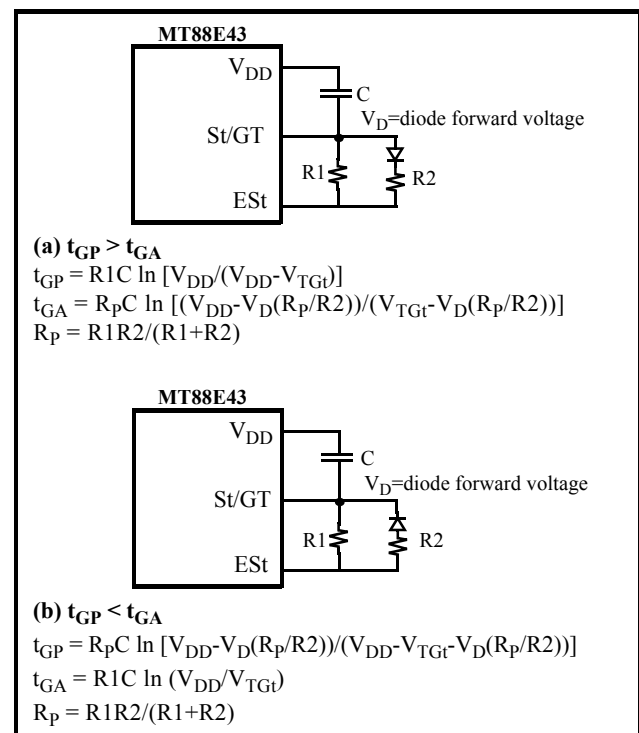
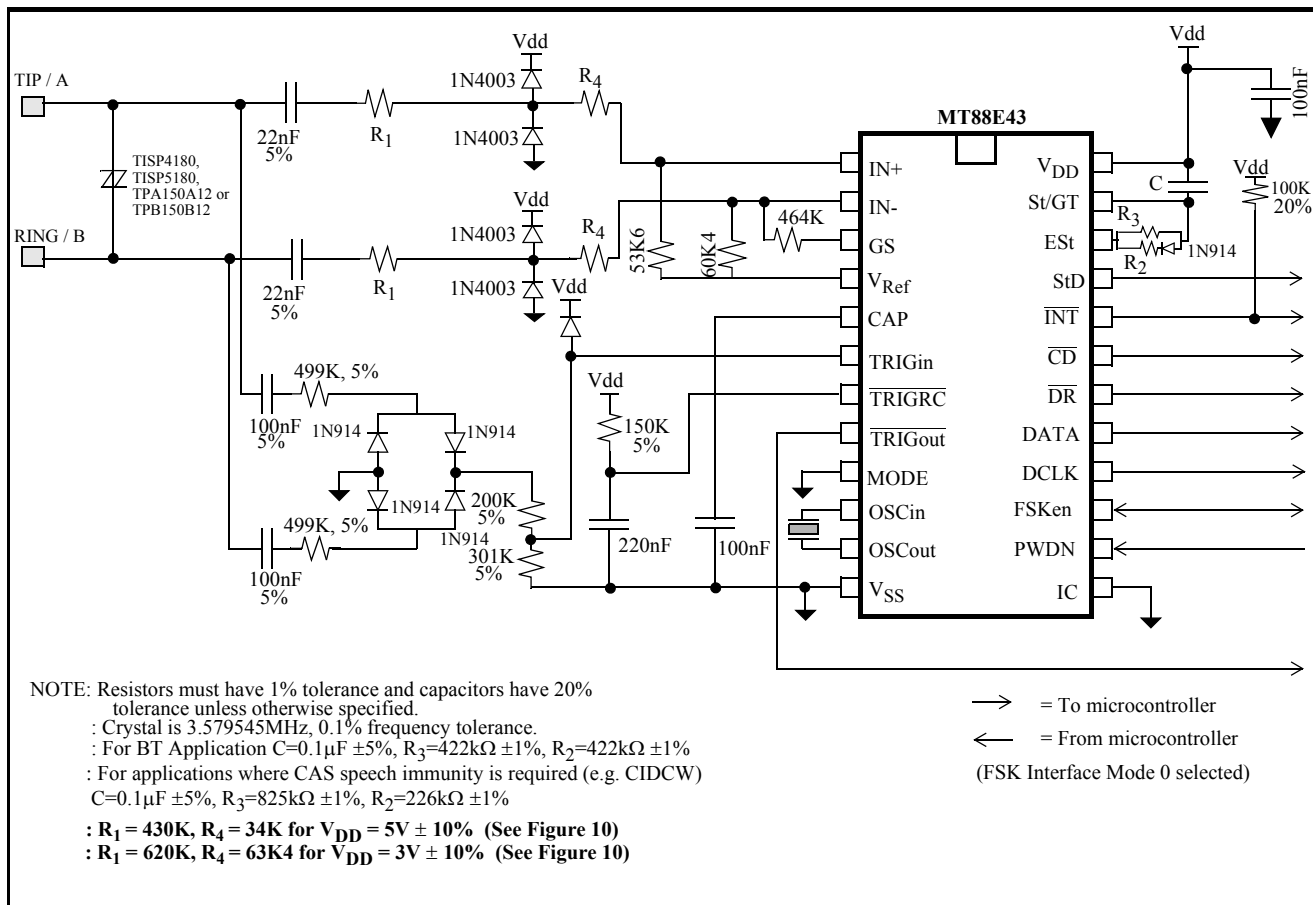
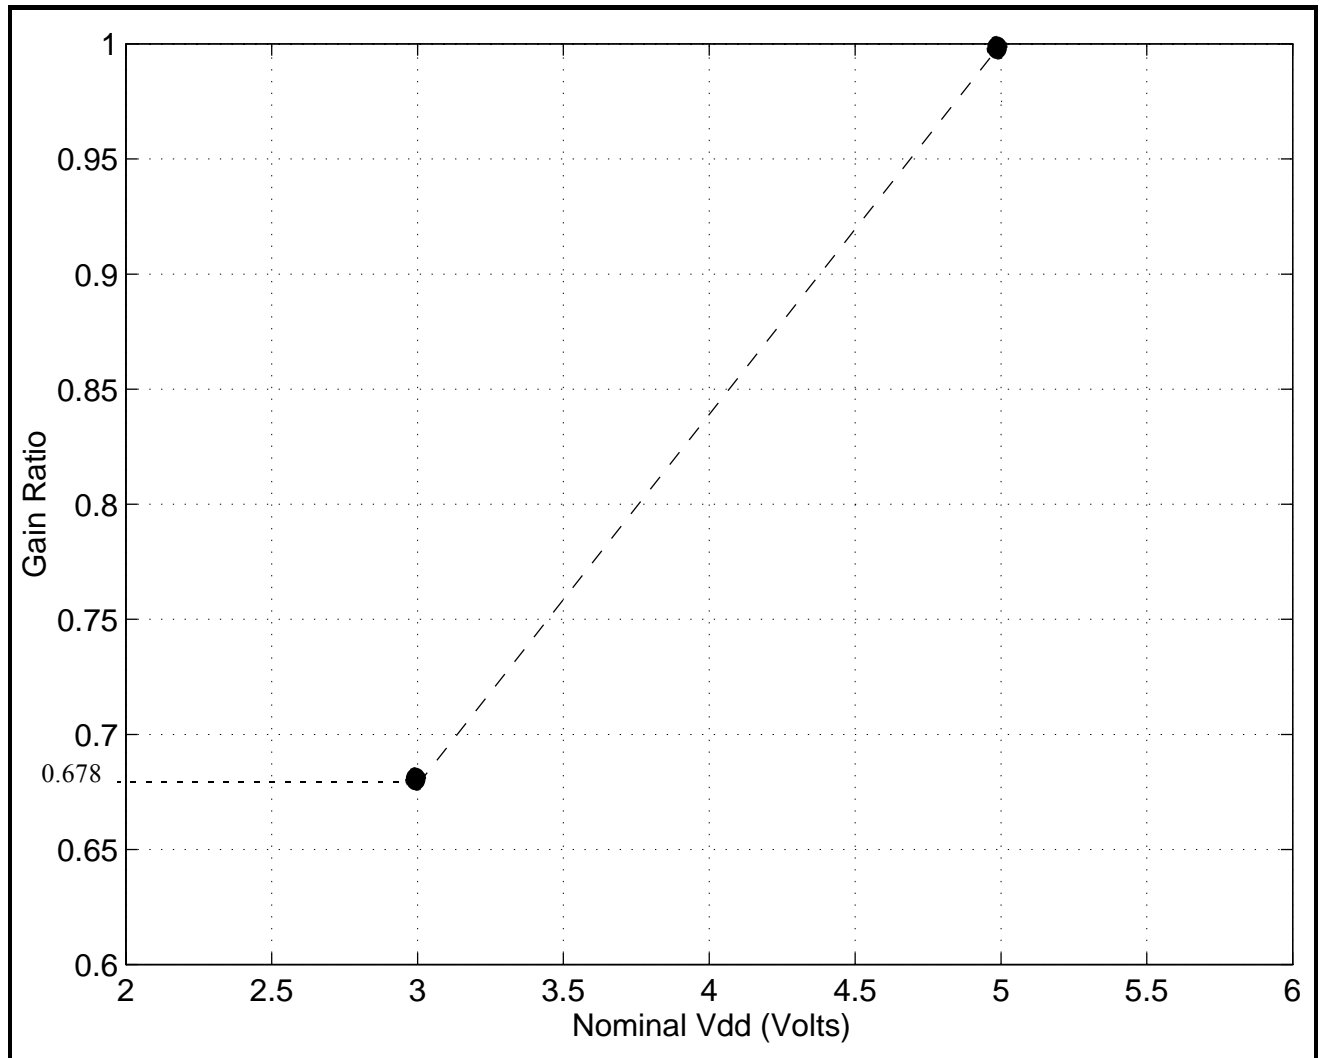

Figure 5 - Guard Time Circuits with Unequal Times
Figure 9 - Application Circuit
Figure 10: Gain Ratio as a function of Nominal Vdd
BT specifies that the idle state tone alert signal recognition time should not be less than 20ms when both tones are used for detection. That is, both tones must be detected together for at least 20ms before the signal can be declared valid. This requirement can be met by setting the t_{GP} (refer to Figure 5) to at least 20ms.
BT also specifies that the TE is required to apply a D.C. wetting pulse and an AC load 15-25ms after the end of the alerting signal. If $t_{ABS}=t_{DA}+t_{GA}$ is 15 to 25ms, the D.C. current wetting pulse and the A.C. load can both be applied at the falling edge of StD. The maximum t_{DA} is 8ms so t_{GA} should be 15-17ms. Therefore, t_{GP} must be greater than t_{GA} . Figure 5(a) shows a possible implementation. The values in Figures 9 and 11 ($R2=R3=422K$, $C=0.1\mu F$) will meet the BT timing requirements.
$(A_{Vdiff}) = R5/R1$ (see Figure 9,10,11)
The circuits shown in Figures 9 and 11 are application circuits for the MT88E43. As supply voltage (V_{DD}) is decreased, the threshold of the device's tone and FSK detectors will be reduced. Therefore, to meet the BT or Bellcore tone reject level requirements the gain of the internal opamp should be reduced according to the graph in Figure 10. For example when V_{DD}=5V (+/- 10%), R₁ should equal 430k Ω and R₄ should equal 34k Ω ; and if V_{DD}=3V (+/- 10%) R₁ should equal 620k Ω and R₄ should equal 63.4k Ω . Resistors R₁ and R₄ are shown in Figures 9 and 11.
The circuit shown in Figure 9 illustrates the use of the MT88E43 in a proprietary system that doesn't need to meet FCC, DOC, and UL approvals. It should be noted that if glitches on the tip/ring interface are of sufficient amplitude, the circuit will falsely detect these signals as ringing or line reversal.
Note: In the application circuits shown in Figures 9 and 11, the Gain Ratio of MT88E43 opamp is
- With gain setting as shown in Figure 10. Production tested at 3V \pm 10%, 5V \pm 10%.